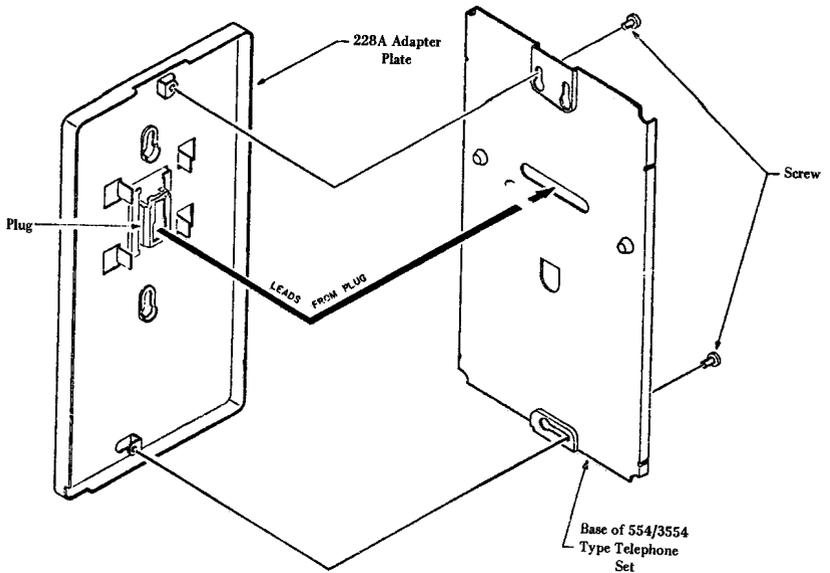

FIGURE 19. 228A Adapter Plate
- b. Route the wiring from the adapter through the hole in the back of the set. See Figures 19 and 20.